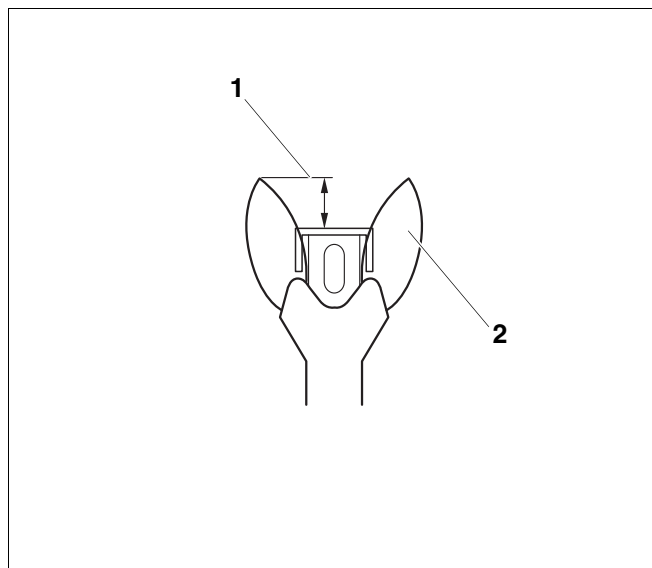
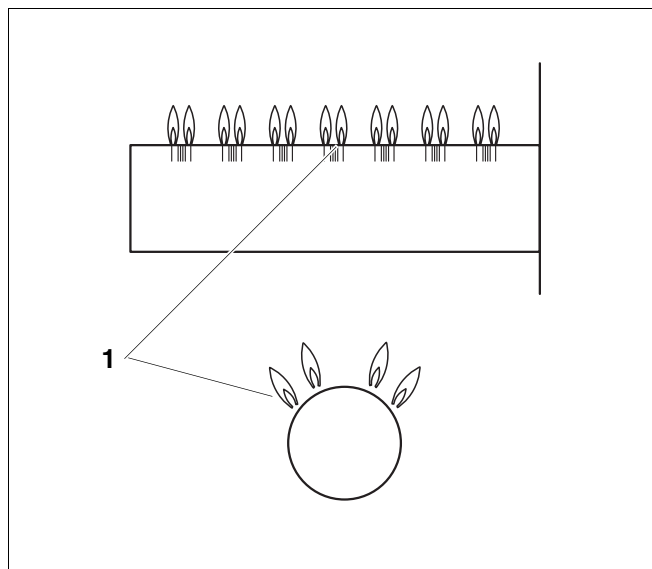

Fig. 10 Correct pilot flame setting
Fig. 11 Main burner
21. Test the safety switch by closing the gas valve. The main burner flame (→ Fig. 11) and the ignition flame (→ Fig. 10) are extinguished. After six (6) seconds at the most the main gas solenoid valve on the gas valve must close with an audible noise.